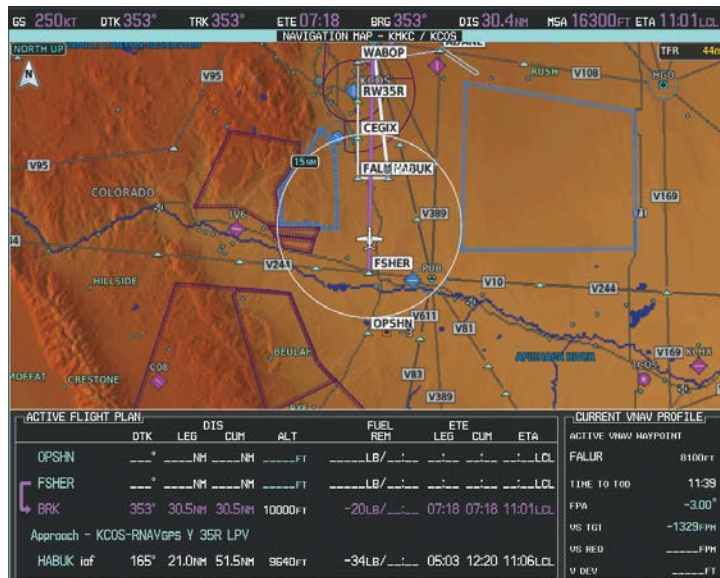

Figure 5-189 Awaiting Vectors to Final
- 20) The flight continues through the arrival procedure to FSHER (see Figure 5-189). At a point 31 nm from the destination airport, the phase of flight scaling for the CDI changes to Terminal Mode and is annunciated by displaying 'TERM' on the HSI.